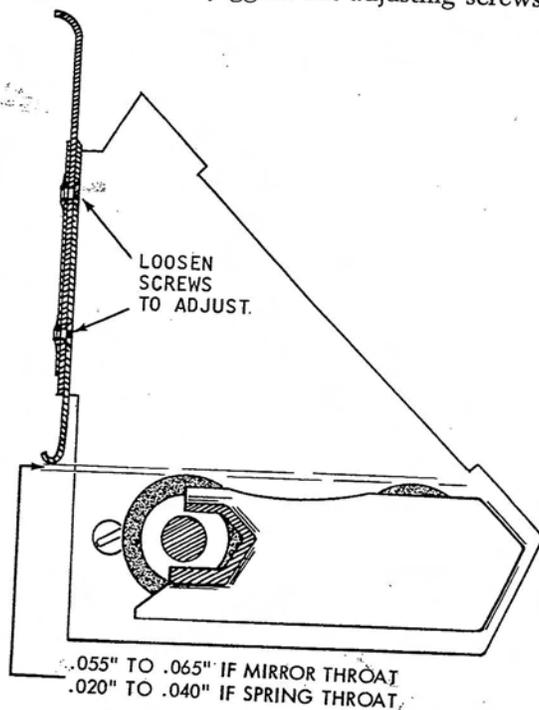

Figure 3-7. Lower Magazine Throat Adjustments
6. If flat springs are used, the lower magazine throat should be $.020$ " to $.040$ " above an imaginary plane determined by the tops of feed rolls. If throat is formed from mirror plate it should be set at $.055$ " to $.065$ " above feed rolls. See Figure 3-7.